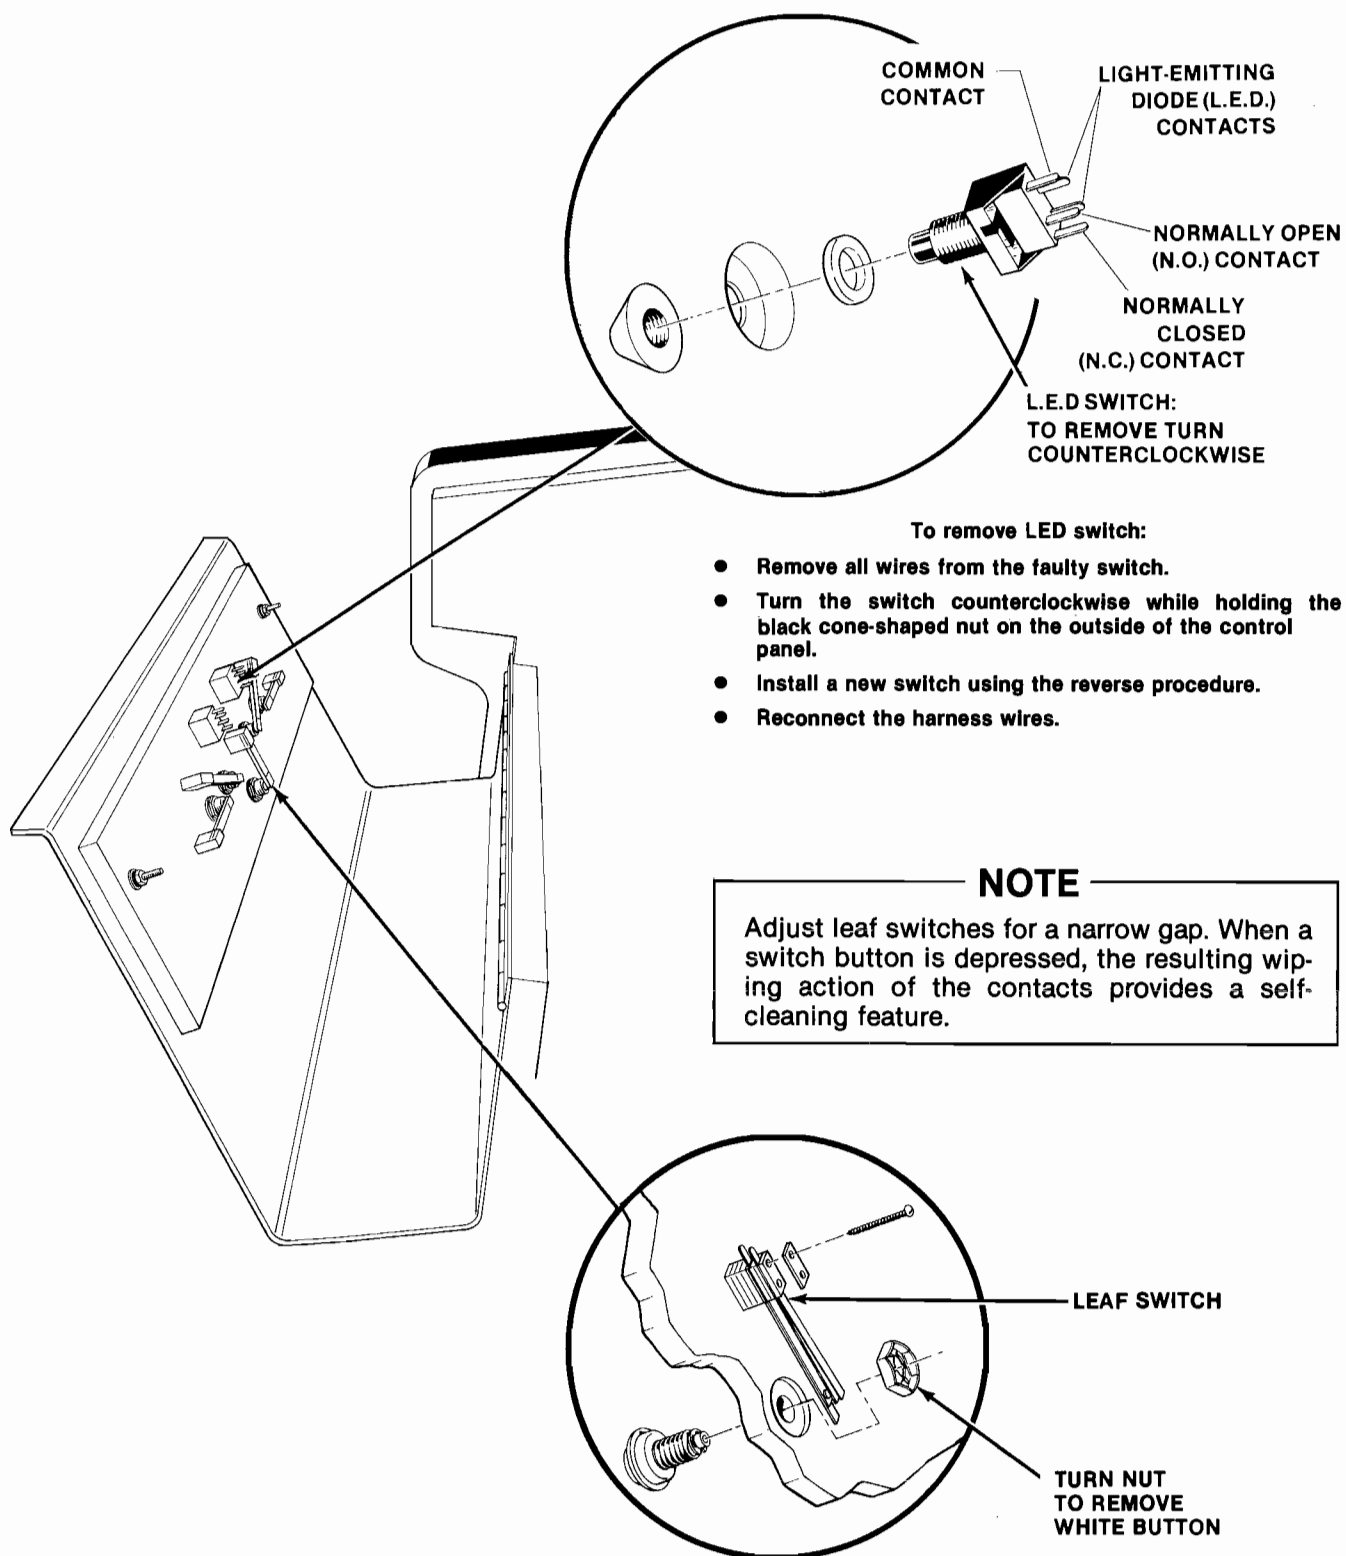

Figure 8 Opening the Control Panel
Reach through the opening and remove both sets of wing nuts, split lock washers, and flat washers, located on the underside of the control panel (see Figure 8). The two carriage bolts will remain in the control panel.
To replace any switch, remove both of its screws with a Phillips-head screwdriver—see Figure 8.
The light-emitting diode (LED) switches on the control panel have a very low failure rate. In case a switch should ever be suspect, first test it per the description that follows. To replace the switch, refer to Figure 8.
3. Connect multimeter leads to appropriate LED switch contacts (see Figure 8 for designation of switch contacts and meter lead placement).